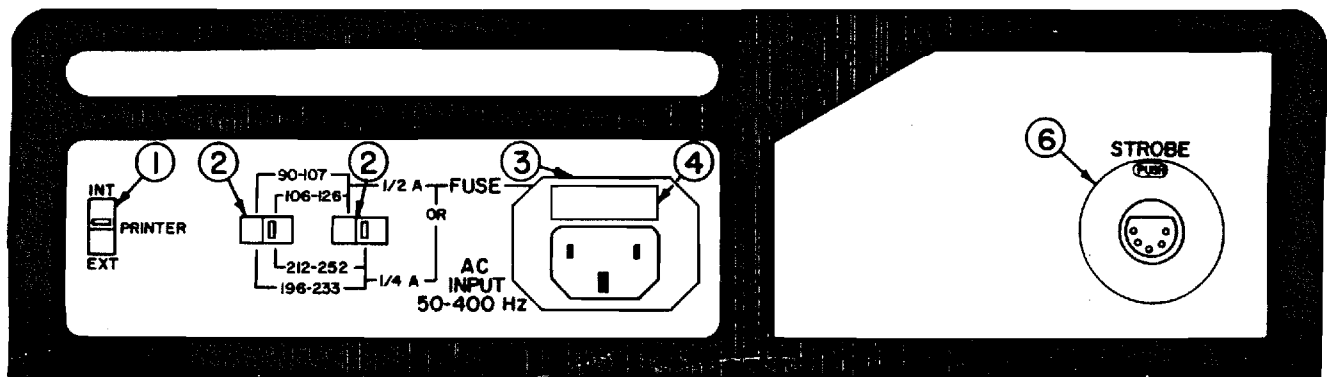

FIGURE 2-3 RIGHT-HAND SIDE PANEL DETAILS
4) AC INPUT SELECTOR SWITCHES (Fig. 2-3, Ref. 2)
5) AC INPUT POWER RECEPTACLE (Fig. 2-3, Ref. 3)
6) AC POWER FUSE (Fig. 2-3, Ref. 4)
7) STROBE LIGHT CONNECTOR (Fig. 2-3, Ref. 6)